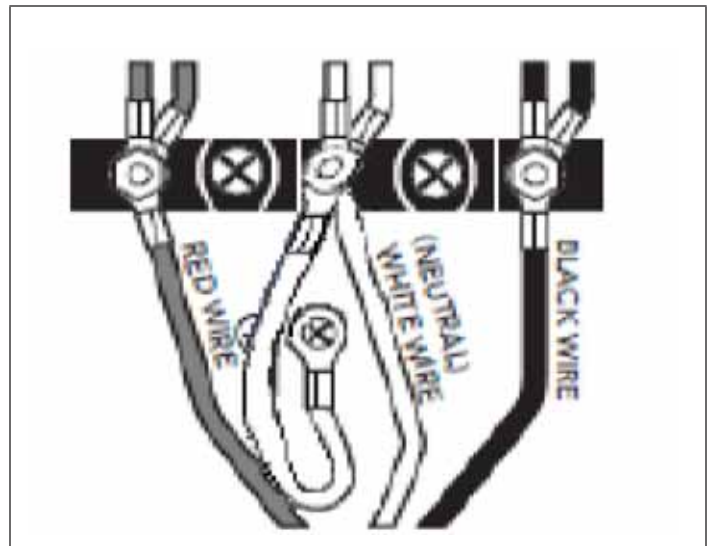

Figure 15: 3-Wire Connection
- Secure the neutral, grounded wire of the supply circuit, to the center stud (silver colored) of the terminal block (see Figure 15).